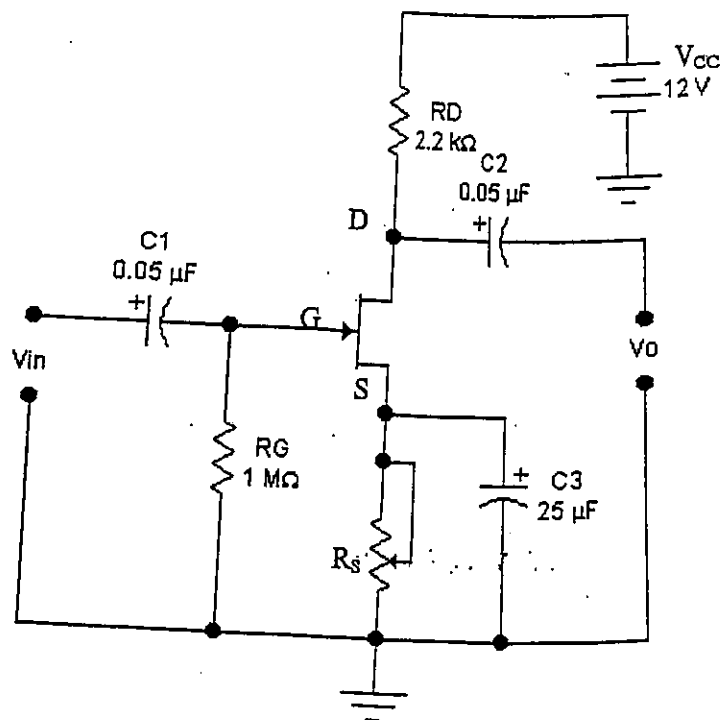

Figure 9.2
- 2- Connect the circuit of Figure 9.2.
- 1- Set up the circuit of Figure 9.2 using (Electronics Workbench Software).
- 3- Draw the equivalent AC model for the circuit of Figure 9.2.